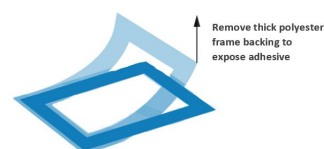

Figure 51: Remove polyester frame backing
8. **Wet the Kimwipes with 2X SSC or Deionized (DI) water.** Take care that the Kimwipes and 2X SSC do not contact the slides. Kimwipes should be thoroughly wet, but standing buffer should not be present.
- Carefully remove the thick polyester frame backing (with the center square removed) from the incubation frame to expose the top adhesive layer of the incubation frame (Figure 51).